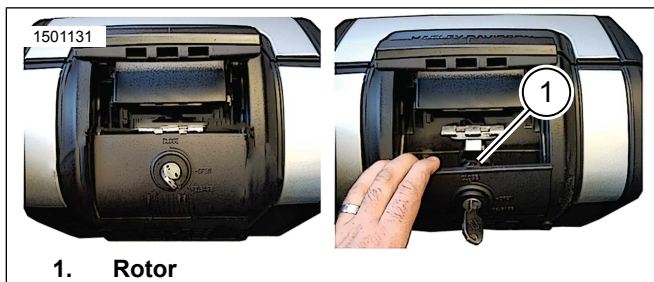

Figure 6. Access to Rotor
- See Figure 6. Pull release lever to access rotor (1).